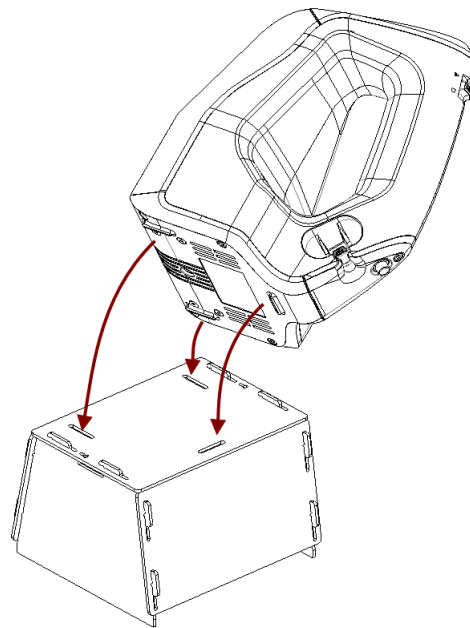

Figure 216: Placing Artec Spider on the stand
3. Place the scanner on the scanner stand, making sure that you insert the three scanner stems in the three slots of the stand cover (see Figure 216).